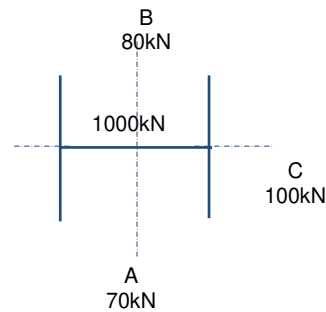

Fig. 7
8. A universal column supports a factored axial load of 1000kN and factored eccentric loads of 70kN, 80kN and 100kN as shown in figure 7. The column is 5m long and it is effectively held in position and partially restrained at both ends. Design the column in grade S275(grade 43) steel. Ignore the self weight of the column (20 marks)